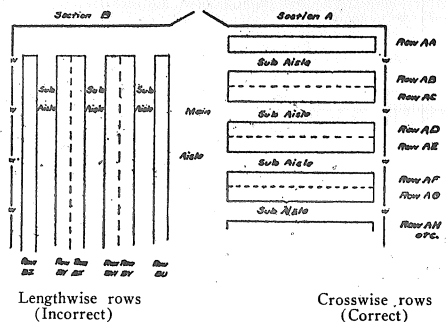
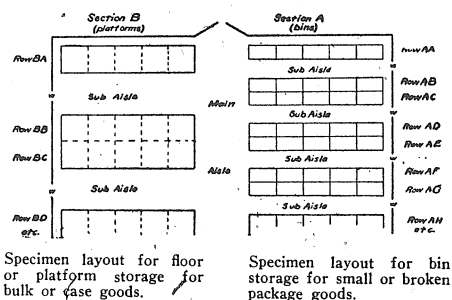

FIGURE 4
FIGURE 5
5.—*Sections*: A group of generally parallel rows. Generally, difference in direction (see Figure 4), or in uniformity of rows (see Figure 5) will determine different sections. A section may be bounded by walls, aisles or only imaginary lines, but its separate identity will be kept clear and distinct.